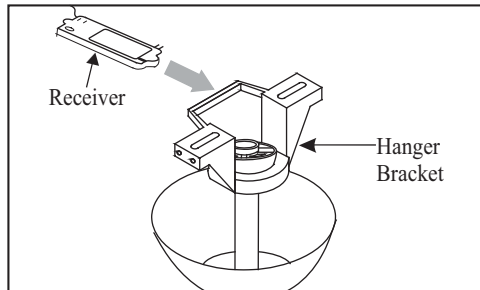

Figure 17
1. Insert the receiver into the hanger bracket with the flat side of the receiver facing the ceiling as Figure 17.